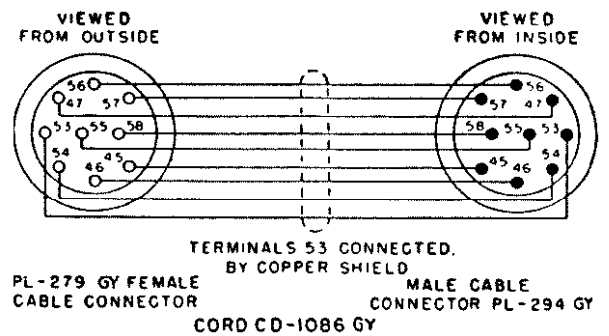

Figure 27. Cord CD-1086-GY, internal wiring.
b. POWER CORDS CD-1086-GY (fig. 27). Two main power cords are supplied, Cord CD-1086-GY (44 inches long) and Cord CD-1086-GY